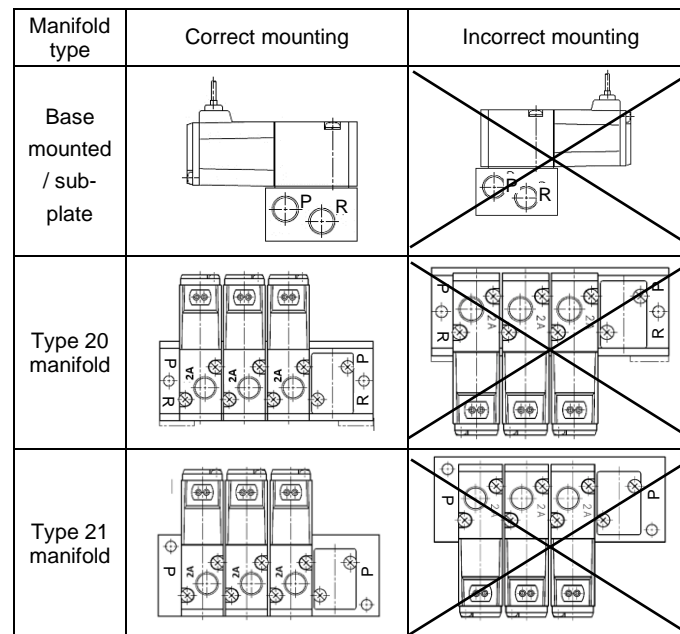

Figure 10.
- When mounting a valve on the manifold base or sub-plate, etc., the mounting orientation is already decided. If mounted in a wrong direction, the equipment to be connected may result in malfunction (see Figures 10 and 11 under section 3.13). VK300 series valves can be mounted on the manifold base VV5K3 of VK3000 series. Refer to catalogue for more details.